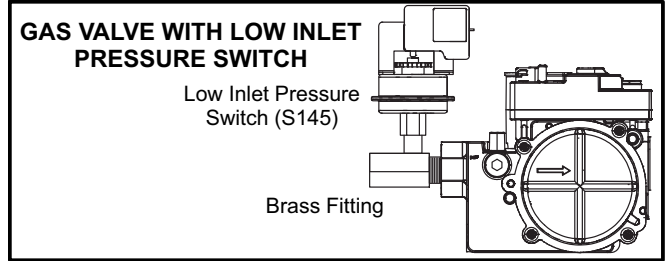

Figure 2
- 9 - Thread provided brass fitting to gas valve inlet until hand tight. Using properly sized wrench, tighten fitting 2 to 3 full turns being careful to position the side port to allow clearance for the pressure switch and harness. See figure 2.
***NOTE** - Some installations may require the pressure switch and fitting assembly to be positioned differently than shown in figure 2.*